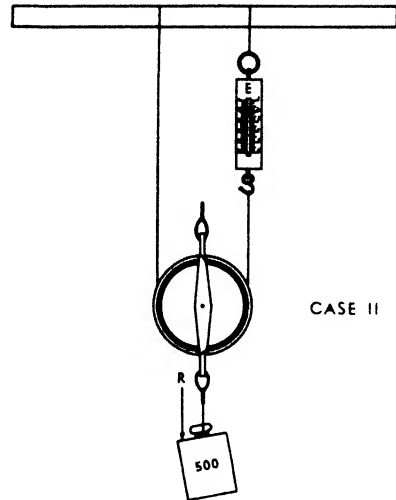

FIG. 88. SINGLE MOVABLE PULLEY.
Arrange the single pulley so that it moves with the load (see Fig. 88). Use a 1000 g. weight for the resistance (R). Weigh a movable pulley and include its weight as part of the resistance. With a meter stick, measure the distance the effort moves when the resistance is moved 5 or 10 cm. Record all results in Table XXV.